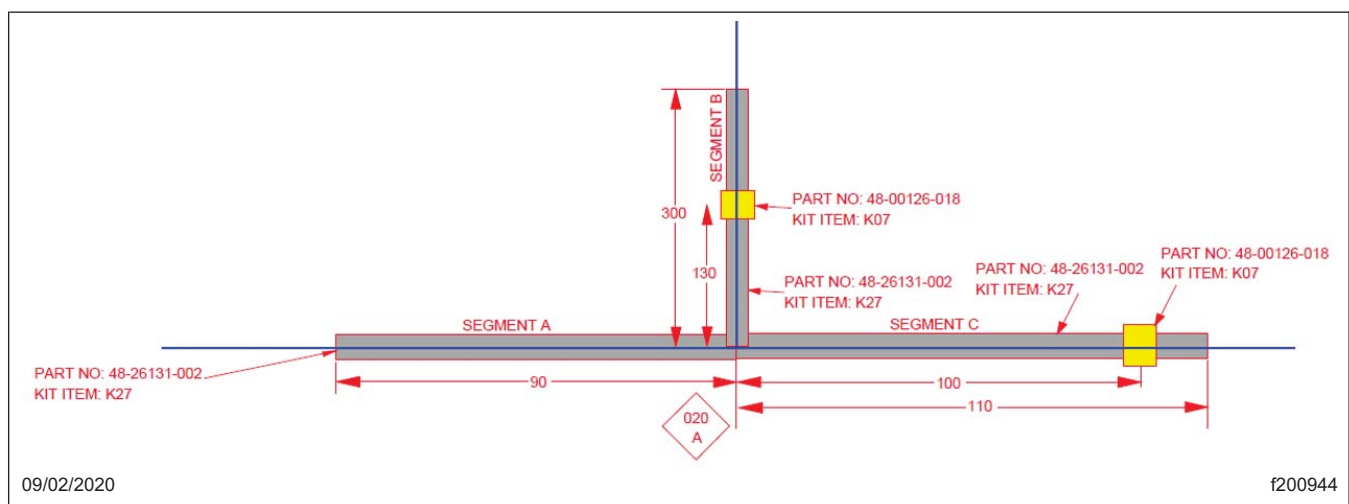
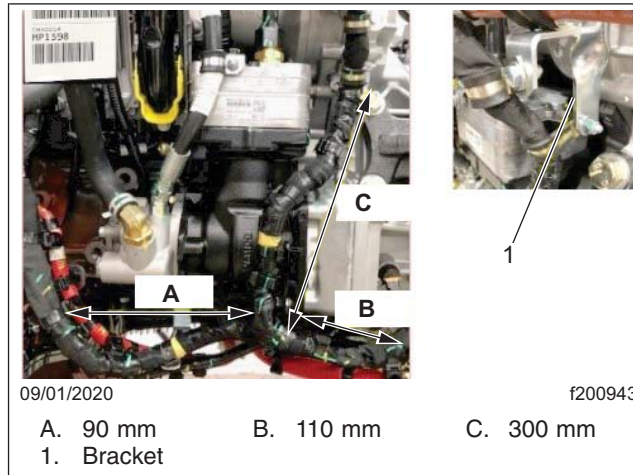
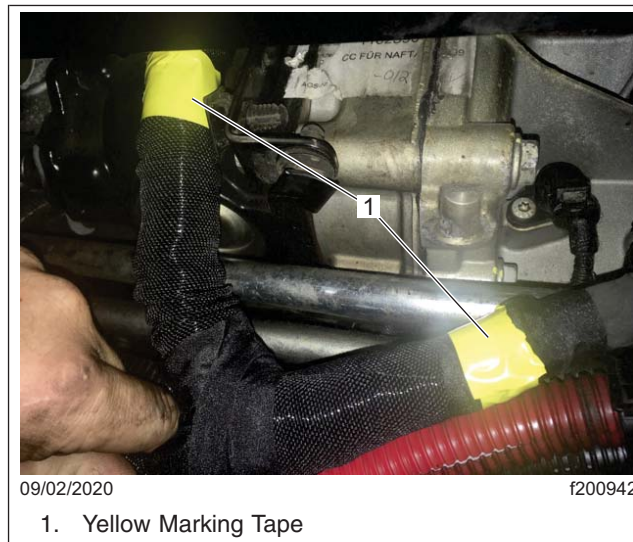

Fig. 8, TwistTube and Clamp Location Measurements
Fig. 9, TwistTube Length
Fig. 10, Yellow Marking Tape and Locations
12. Add the TwistTube® to the engine harness at the air compressor bracket area following the measurements shown in Fig. 8. The horizontal section of the harness must be 3.5 inches (90 mm) ahead of the vertical section, and 4.3 inches (110 mm) behind the vertical section (total of 7.8 inches (200 mm) TwistTube for horizontal section). The vertical section must be at 11.8 inches (300 mm) from horizontal section. See Fig. 9. Secure the loose ends of the TwistTube with electrical tape or tie straps.
13. Add yellow marking tape at the two key spots (3.9 inches (100 mm) on the horizontal and 5.1 inches (130 mm) on the vertical section) to identify the clipping point so the harness will be properly secured to prevent further chaffing. See Fig. 8 and Fig. 10.